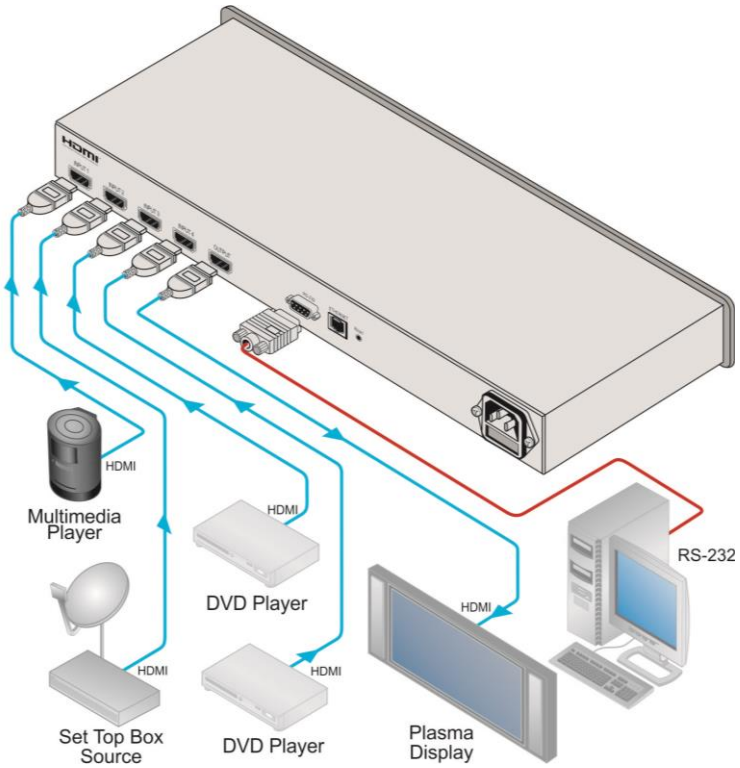

Figure 3: Connecting the VS-41H 4x1 HDMI Switcher
To connect the **VS-41H 4x1 HDMI Switcher** (as illustrated in Figure 3), do the following:
5. Connect the power connector to the mains electricity (not shown in Figure 3).